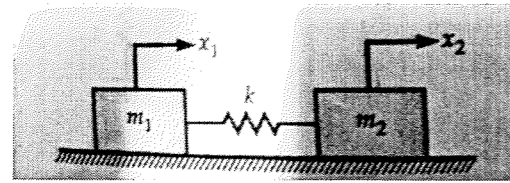

Fig 2
b. Solve the problem shown in Fig.2 $m_1=10\text{kg}$, $m_2=15\text{ kg}$, and $K=320\text{N/m}$